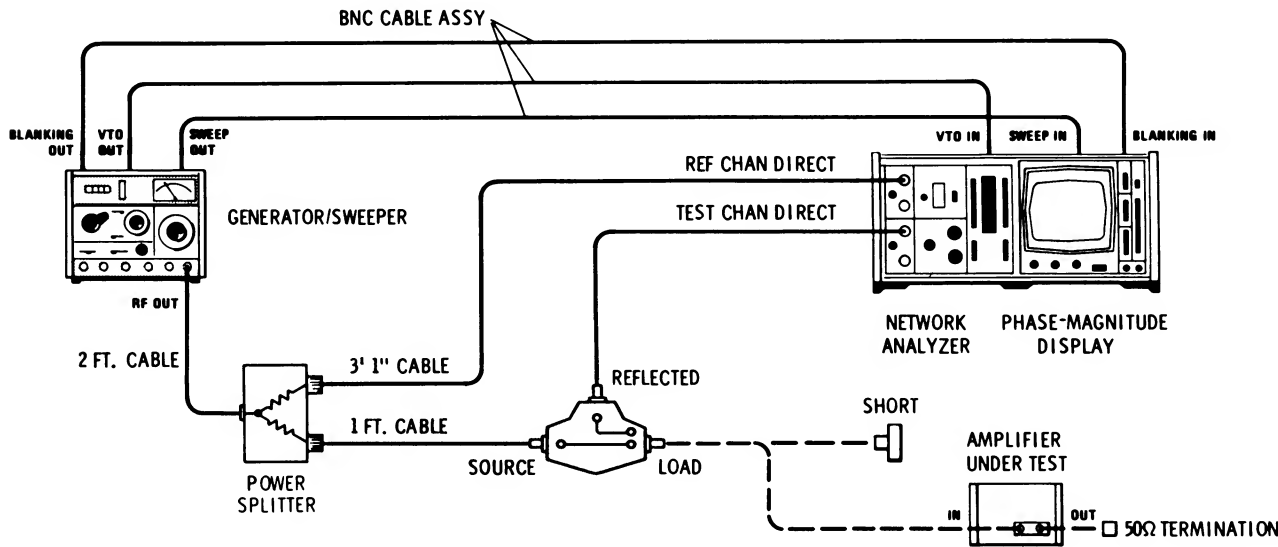

Figure 5. VSWR Test Setup: 1 to 110 MHz
1. Connect the equipment as shown in Figure 5. Set the generator/sweeper for a -10 dBm signal, sweeping from 1 to 110 MHz.